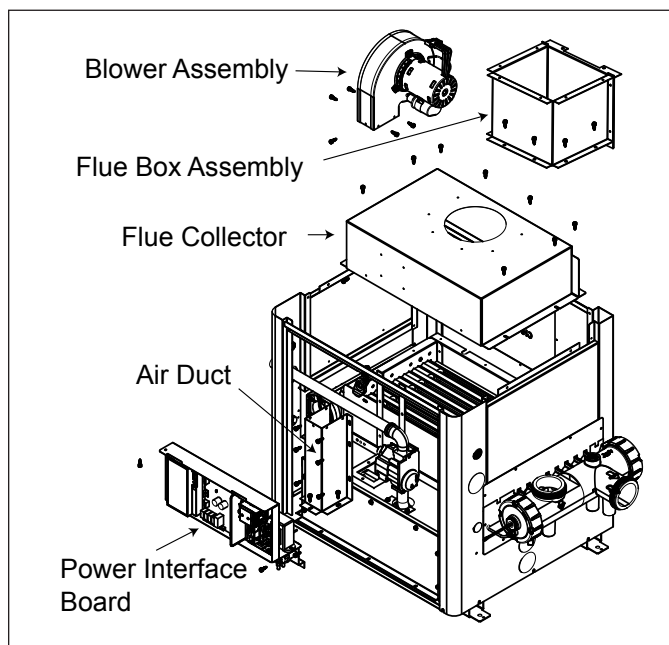

Figure 3. Flue Box Assembly and Flue Collector
2. Remove the eight (8) screws that secure the flue box assembly to the flue collector. See Figure 3.
5. Replace the eight (8) screws to attach the new flue box assembly to the flue collector using Jandy part number R0456200.
3. Remove the two (2) hex head screws that hold the control panel in place. One is located on the pressure switch bracket to the burner panel. The other is located at the top left side of the control panel next to the bracket door support. See Figure 3.
4. Remove the nine (9) screws securing the air duct. Remove the air duct and the blower assembly together.
5. Remove the one (1) upper screw that attaches the burner panel to the flue collector.
6. Remove the eight (8) screws that secure the flue collector to the combustion chamber assembly. Remove the flue collector. See Figure 3.
9. Replace the eight (8) screws to attach the flue box assembly to the new flue collector. (Part number R0455803 for model 250, part number R0455804 for model 300, and part number R0455805 for model 400)
10. Attach the flue collector to the burner panel with the one (1) upper screw.
11. Replace the blower assembly and air duct together, using the nine (9) screws that secure the air duct.
12. Replace the control panel using the two (2) hex head screws that hold it in place. One is located on the pressure switch bracket, which mounts to the burner panel. The other is located at the top left side of the control panel next to the bracket door support. See Figure 3.
13. Attach the flue collector to the flue box assembly using 8 (eight) screws. See Figure 3.